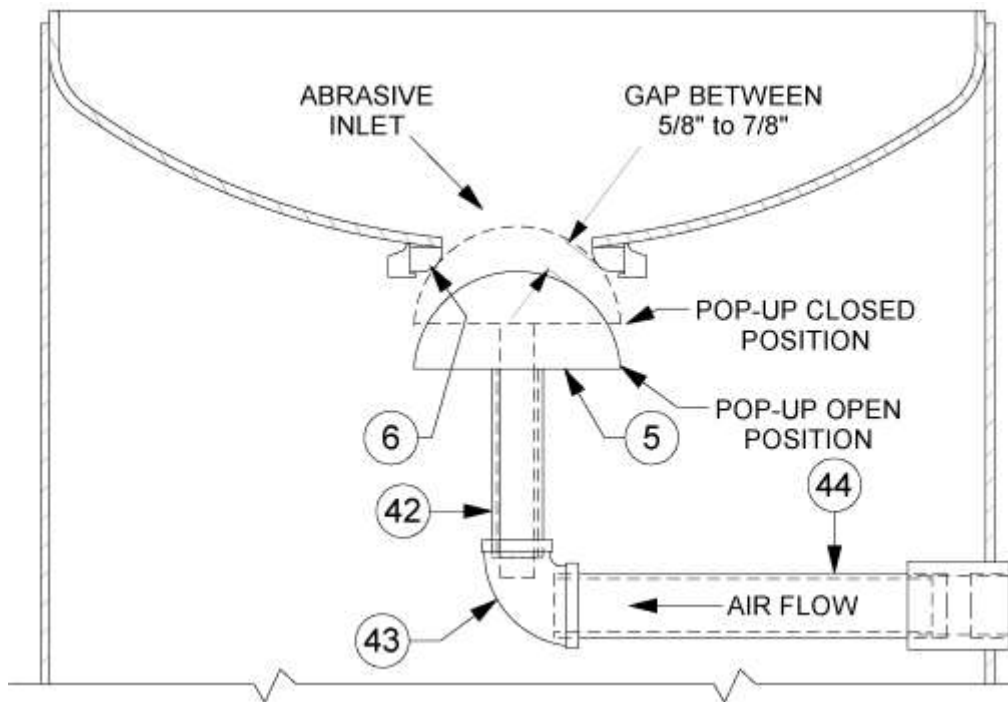

Figure 8.1 – Standard Popup Assembly and Internal Piping
Check the pressure vessel internal piping for corrosion, cracks, wear, holes, or any other damage. Repair or replace damaged components. See Figure 8.1 and Section 9.10.
- e) Check the popup gap (distance between the popup surface and the gasket). It should be between 5/8" and 7/8". See Figure 8.1. An excessive gap is created by a vertical nipple that is too short. An excessive gap will expose the top of the vertical nipple to abrasive when the popup closes which could result in premature wear to the popup.